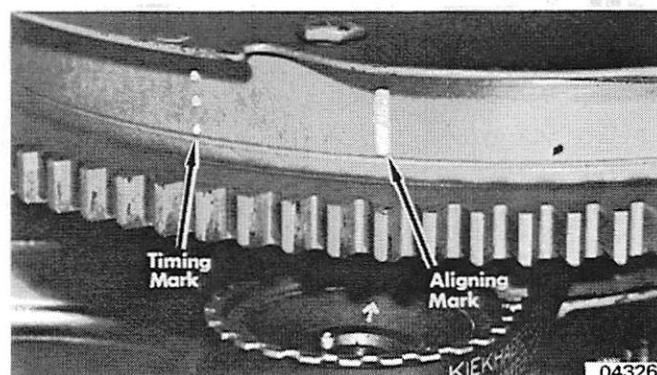

Figure 2. Alignment and Timing Marks on Flywheel and Pulley - Merc 1250SS-1000SS 04326
1. Rotate flywheel until "alignment mark" (a straight white line stamped on side surface of flywheel) is aligned with arrow on distributor pulley (not plate). (Figure 2)